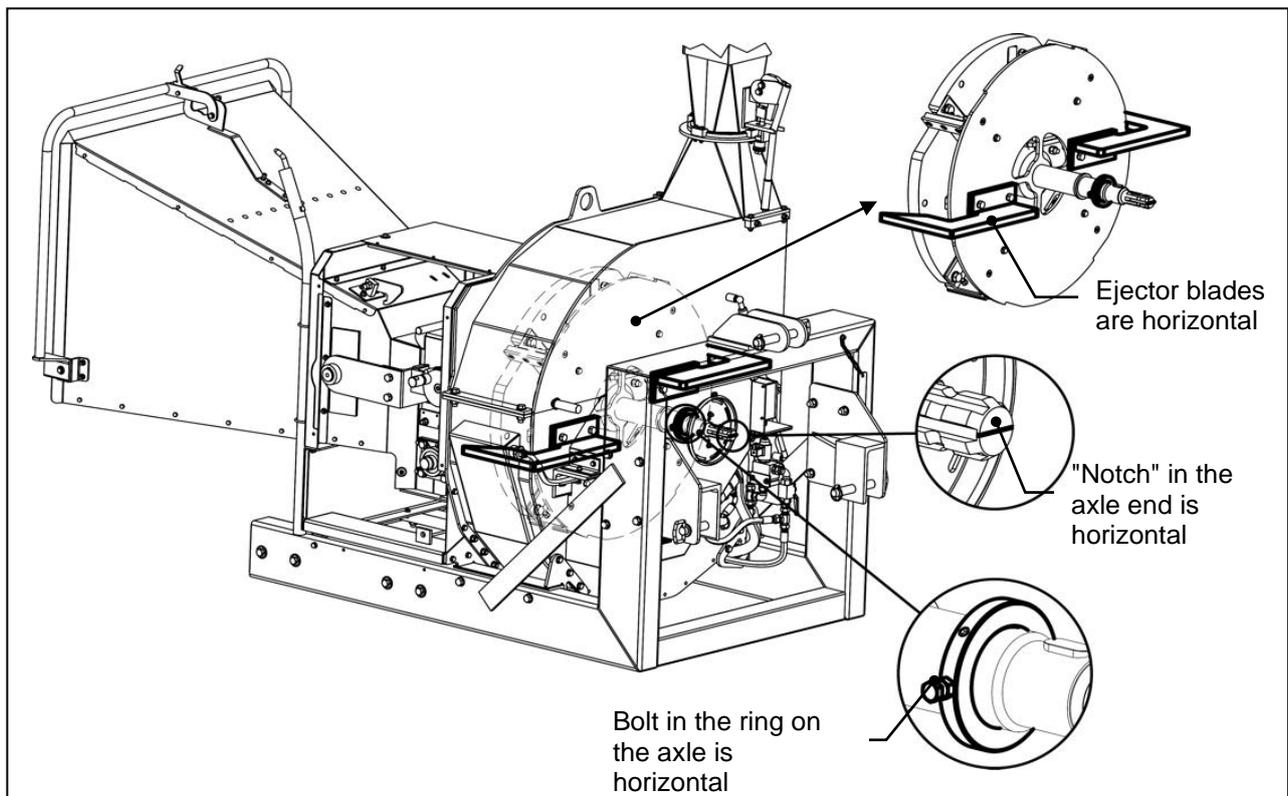

Figure 22: Opening machine 1 - Rotate the rotor to the correct position
4. To rotate the rotor, turn the end of the axle so that the bolt in the ring on the axle (next to the magnetic sensor) is in a horizontal position. This means that the ejector blades are also in a horizontal position. See Figure 22.